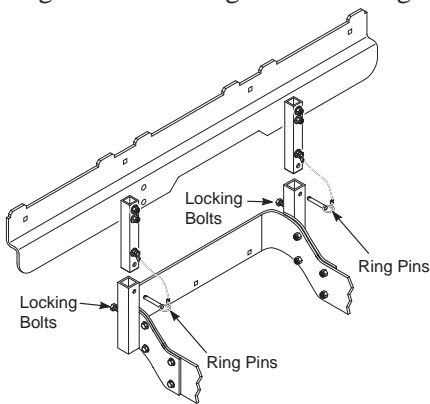

FIGURE 3-5
12. Attach the hood assembly to the machine by installing the mounting post into the hopper mounting brackets. Secure with the ring pins and tighten the locking bolts. See Figure 3-5.